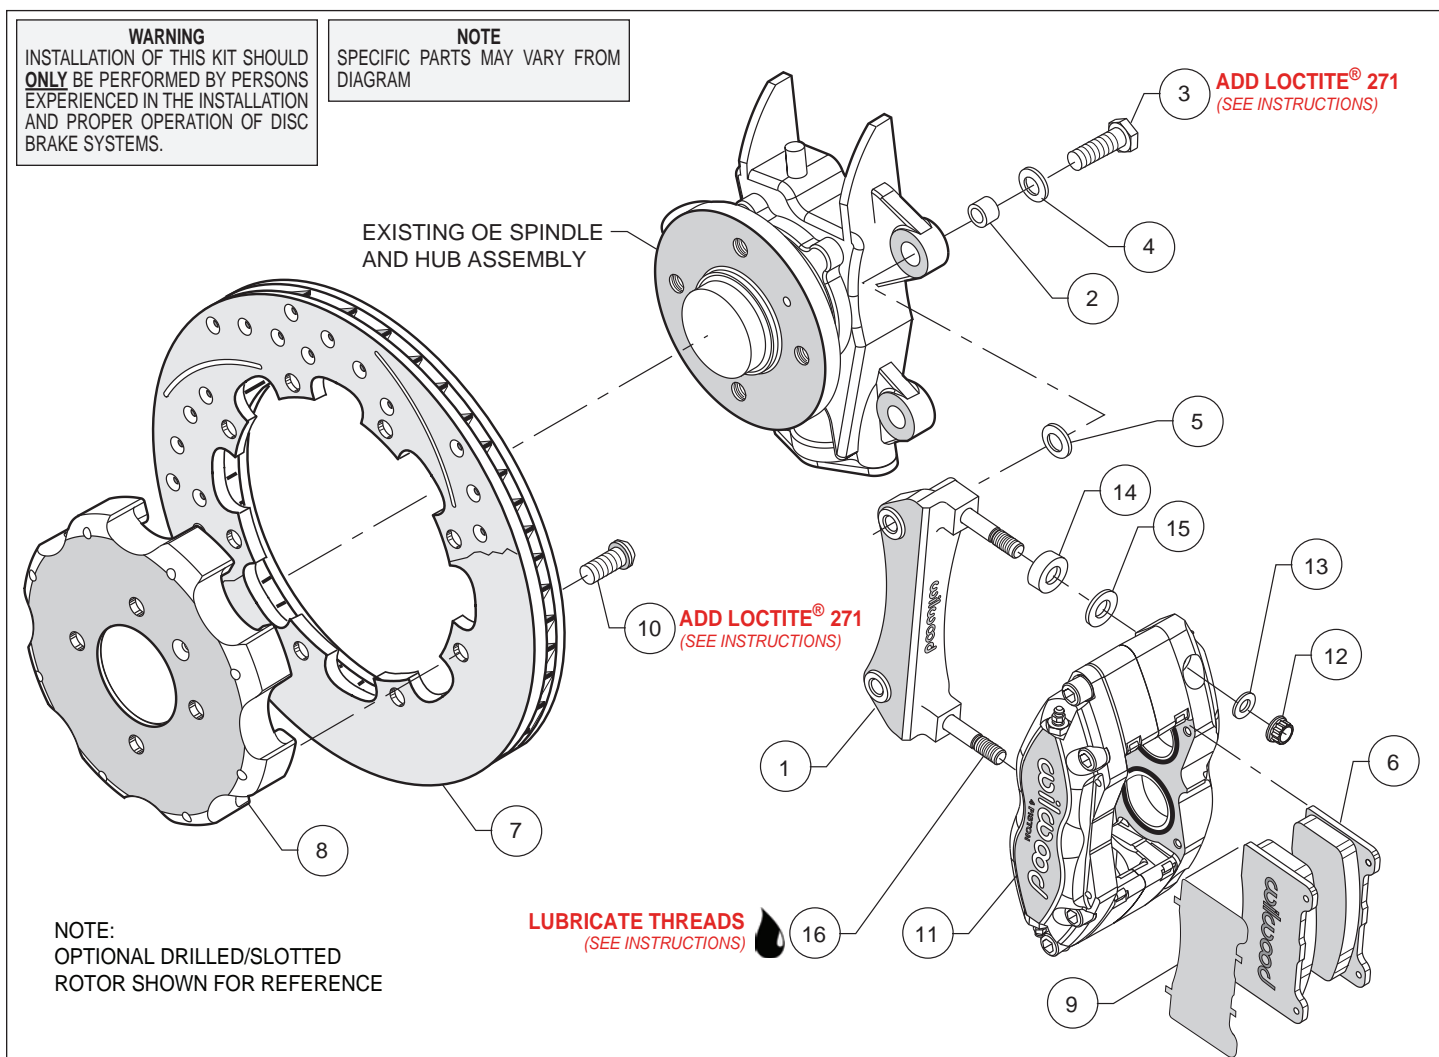

Figure 1. Typical Installation Configuration
- Insert one sleeve (2) each into the holes on the top and bottom of the spindle “ears” where the OEM caliper bracket was removed. The caliper mounting bracket assembly (1) should be installed first with clean, dry threads on the mounting bolts. Install the bracket from the rear side of the spindle by sliding bolts (3) through flat washer (4). Place shim washer (5) between the bracket (1) and the spindle (see Figure 1). The bracket must tighten squarely against the side of the spindle body. Inspect for interference from casting irregularities, machining ridges, burrs, etc. Use one thin shim (5) between the bracket and spindle during initial trial fitting.
- With the larger I.D. side of the rotor (7) facing away from the hat (8), attach rotor (7) to hat (8) using bolts (10) as shown in Figure 1. Using an alternating sequence, remove bolts on at a time, apply red *Loctite*® 271 to the threads, and torque to 25 ft-lb.
- **NOTE:** Please reference the caution statement at the beginning of the assembly instructions. Install spacer (14) and one shim (15) over each pre-installed stud (16) on the radial mount bracket (1). Slide the caliper (11) in place over the studs and rotors and install the washer (13) and lock nut (12) to hold the caliper in place. Snug the lock nuts (12) and check that the rotor (7) is centered in the caliper (11). Add or subtract .016" shims (5) as necessary between the bracket (1) and the spindle to center the caliper (11).
- Remove the caliper quick-clip pad retainer from the caliper. Remove the protective material from the adhesive side of the anti-squeal shims (9) and place against the backing plate side of the brake pads (6) utilizing the contour of the backing plate as a guide. Secure material to backing plate by bending the four tabs over the edge of the backing plate. Slide the brake pads (6) with the shims into place. They should install easily without interference. Check that the outside radius of the brake pad is aligned with the outside diameter radius of the rotor face. Add or subtract shims (15) between the caliper and mount bracket to gain the proper alignment. Reinstall the quick-clip pad retainer.
- Once all clearances have been checked, remove the wheel, caliper, hat, and rotor from the spindle and hub. Secure the caliper mounting bracket (1) to the spindle with bolt (3) using red *Loctite*® 271. Torque the bolts to 60 ft-lbs. Reinstall the hat and rotor assembly and again use several wheel bolts to hold it in place. Lubricate caliper mounting studs and nuts with lightweight oil, reinstall the caliper, torque the caliper nuts (12) to 30 ft-lb.